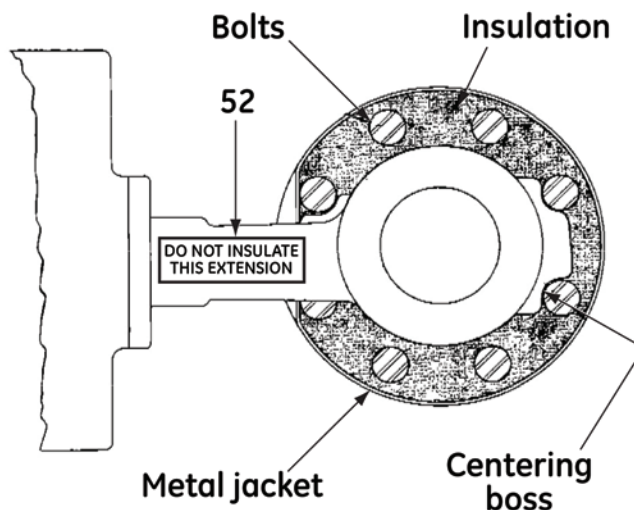

Figure 3
8. For insulated installations, proceed as shown in Figure 3.
6. Loosen the cap screw (37) and remove the nuts (13) from the packing box studs (17) and the yoke studs (14). Using a mallet, gently tap the side of the yoke on the body end and remove the yoke (34) and lever (35) assembly.
7. Drive out the disk studs (4) and remove the shaft from the valve body. If this proves difficult, remove the packing (10), then by using a pipe nipple of suitable size between the flange and disk arm tightened firmly on the shaft, and reversing the packing flange and nuts (13), the shaft may be drawn out of the body by unscrewing nuts (13) (See Figure 3).